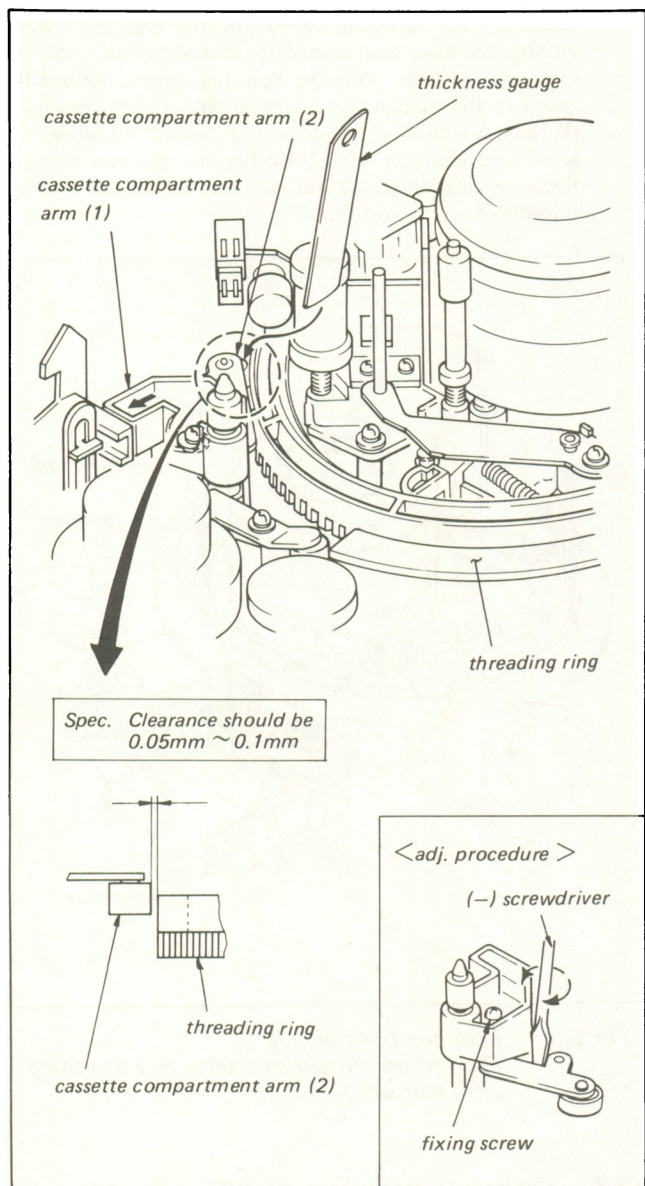

Fig. 6-6. Cassette compartment arm clearance adj.
2. Insert the thickness gauge into the clearance shown in Fig. 6-6 between the roller of cassette compartment arm (2) and the threading ring. Confirm the specification. If not, adjust as follows.